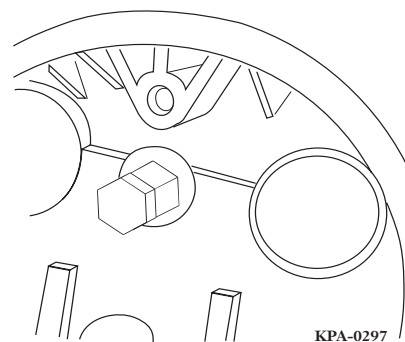

Figure 58 — Ground Screw
- Step 4** Apply a thin coat of UCN lubricant retained previously to the threads of a solid, two-piece nonvented grounding screw (Figure 58).